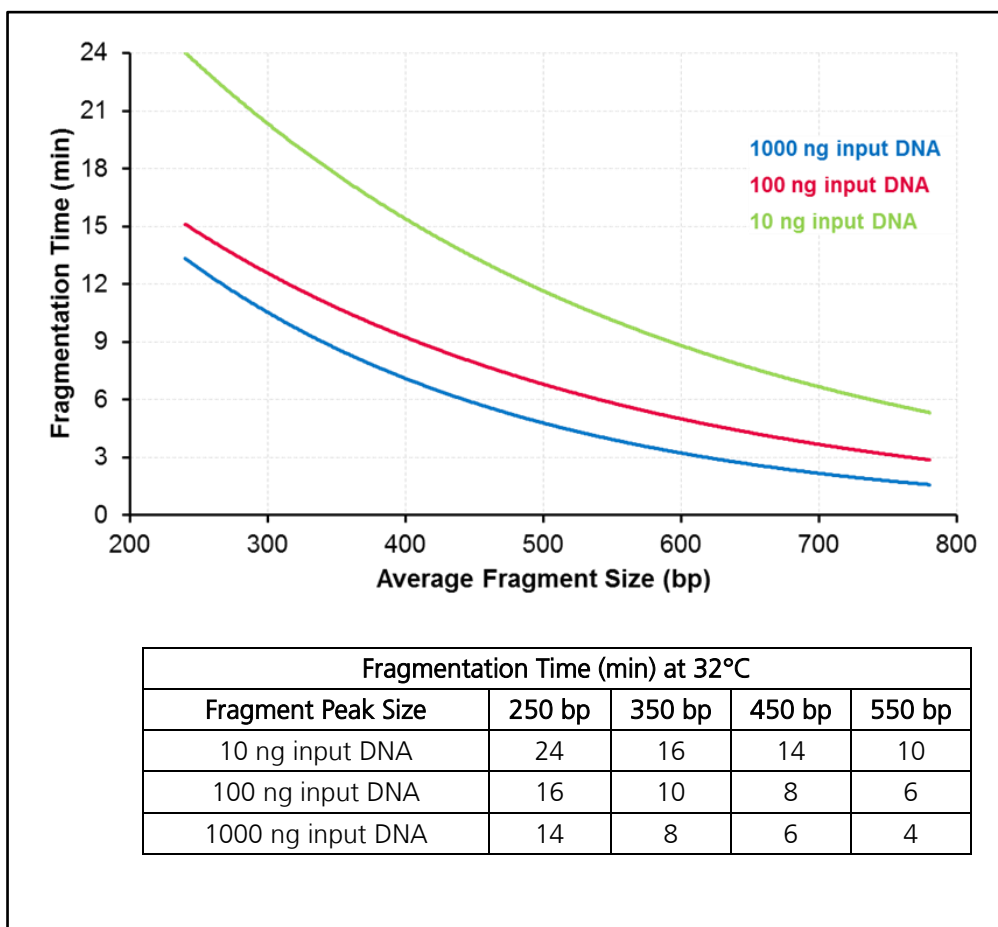

Figure 1: Guidelines for Tuning Fragmentation Size
A key feature of the sparQ DNA Fragmentation & Library Preparation Kit is that the average size of DNA fragments is tunable based on sample type, reaction time, and input amount. Since the source and amount of your experimental sample DNA will differ from any control DNA, optimal reaction conditions should be determined empirically. **Figure 1** (page 14) provide guidance on initial incubation times to test based on DNA input amount. To find the optimal conditions that yield the desired fragment size, we recommend testing timepoints at and around the time determined from **Figure 1**. This fragmentation tuning protocol involves the testing of three incubation times. This is done by adding samples to a thermal block at each test time so that all reactions are completed simultaneously. Samples are collected and purified immediately after the fragmentation and DNA polishing reaction. Bioanalyzer analysis of the collected samples will confirm if one of the timepoints yielded the desired fragmentation.
The optimal incubation time to obtain the desired fragment size for the experimental sample DNA must be determined. The chart and table of **Figure 1** provide guidelines of incubation times and expected sizes based on input amount.
- 1.1 Using the table and chart in **Figure 1**, select an incubation time likely to generate fragments of the desired size of your experimental DNA sample. Refer to this time as T-opt. Include two additional time points at 3 minutes shorter and 3 minutes longer than T-opt. Refer to these as T-short and T-long, respectively.
T-opt	Optimal incubation time determined from Figure 1